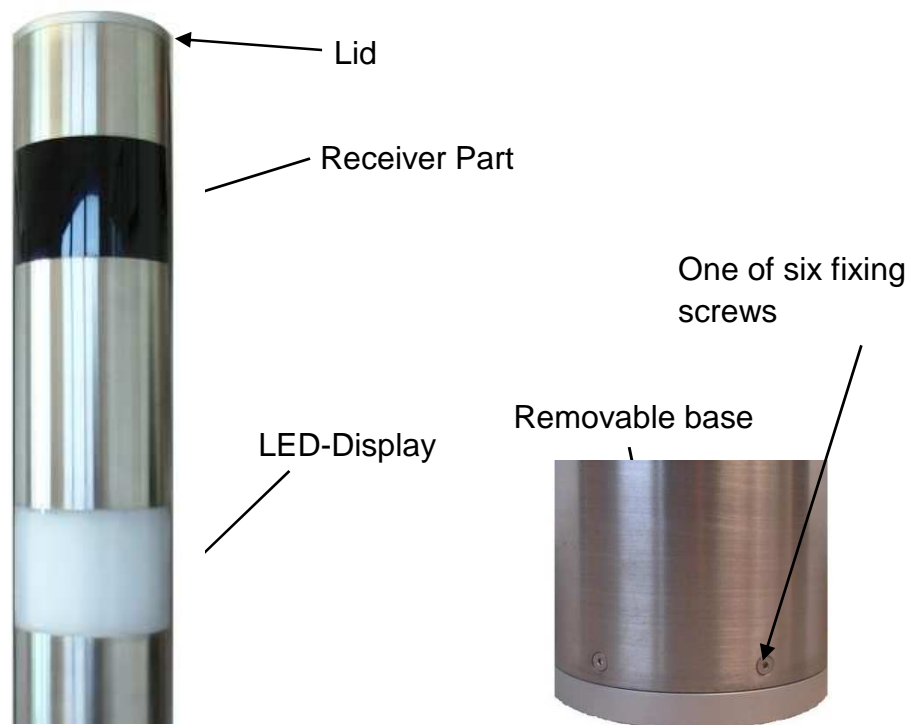

Figure 3: Overview of Reader components (left Upper part; right: Lower part)
- OPTO-ID Long Range Reader STACK 1 (see Figure 3)